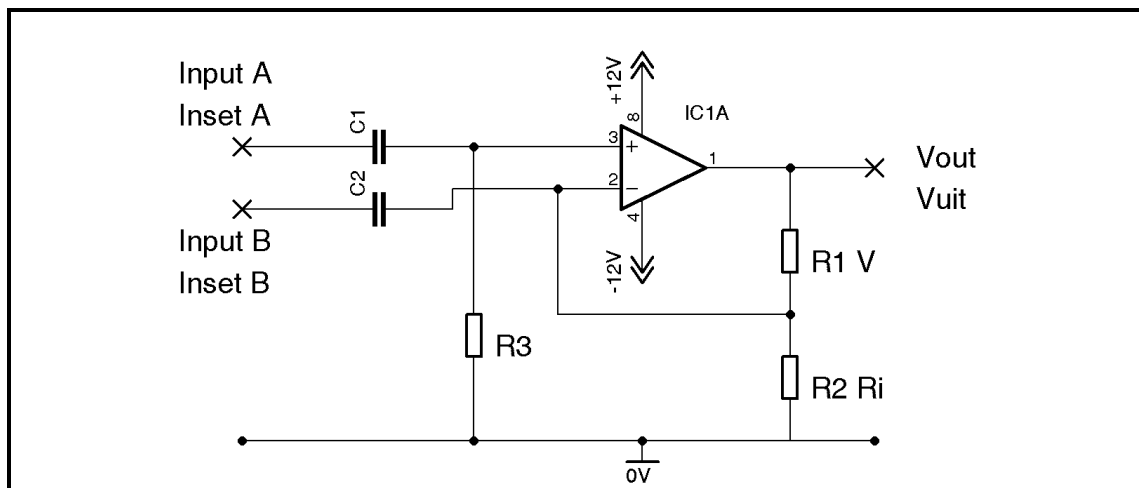

FIGURE 7.4: BI-STABLE MULTIVIBRATOR
- 7.10 The circuit diagram in FIGURE 7.4 is an op amp connected to a bi-stable multivibrator configuration.